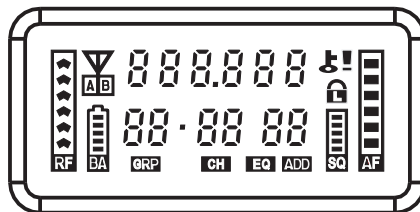

Fig. 9
2. Lightening VFD Screen, Fig. 9: